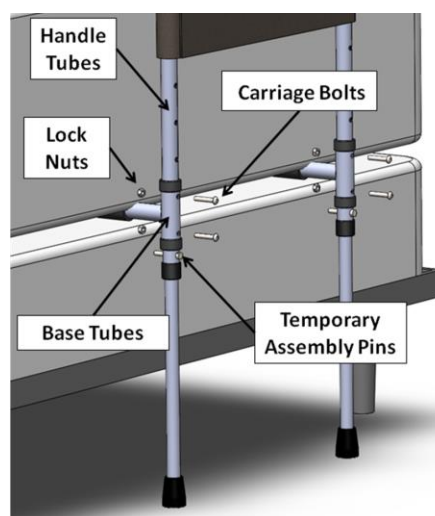

FIGURE 5
5. Using the Flat Wrench, secure the Handle Tubes to the Base Tubes with the Carriage Bolts and Lock Nuts as shown in Figure 5.